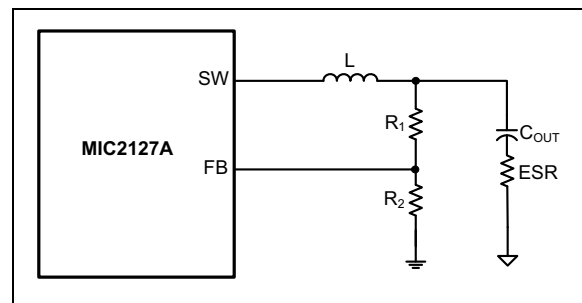

FIGURE 5-4: Enough Ripple at FB.
1. Enough ripple at the feedback due to the large ESR of the output capacitor (Figure 5-4). The converter is stable without any additional ripple injection at the FB node. The feedback voltage ripple is given by Equation 5-25.